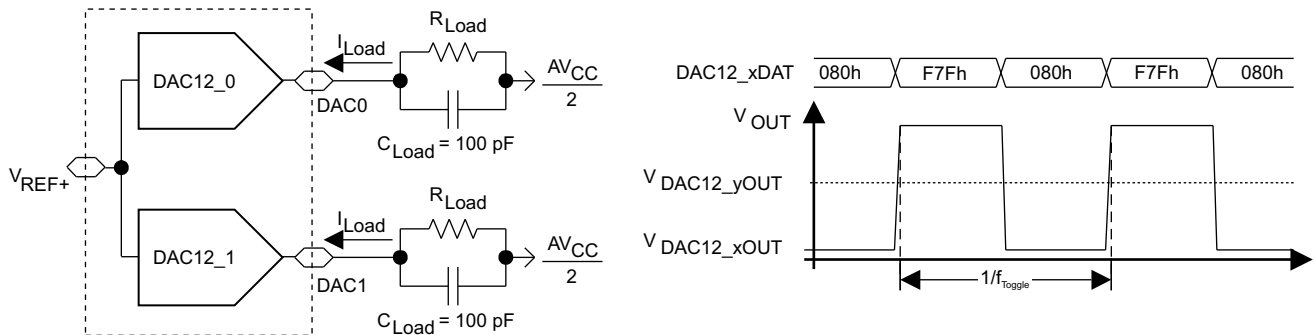

Figure 8-28. Crosstalk Test Conditions
| Channel-to-channel crosstalk (1)(see Figure 8-28)   | DAC12_0DAT = 800h, No Load,DAC12_1DAT = 80h ↔ F7Fh, R Load = 3 kΩf DAC12_1OUT = 10 kHz with 50/50 duty cycle  | 2.2 V, 3 V      |     | -80 |     | dB   |